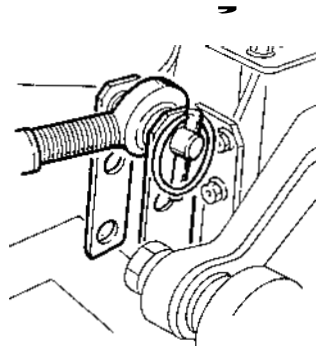

Fig. 13
- 2 Install the hitch top link to the tractor mounting bracket and secure with clip as shown in Fig. 13.